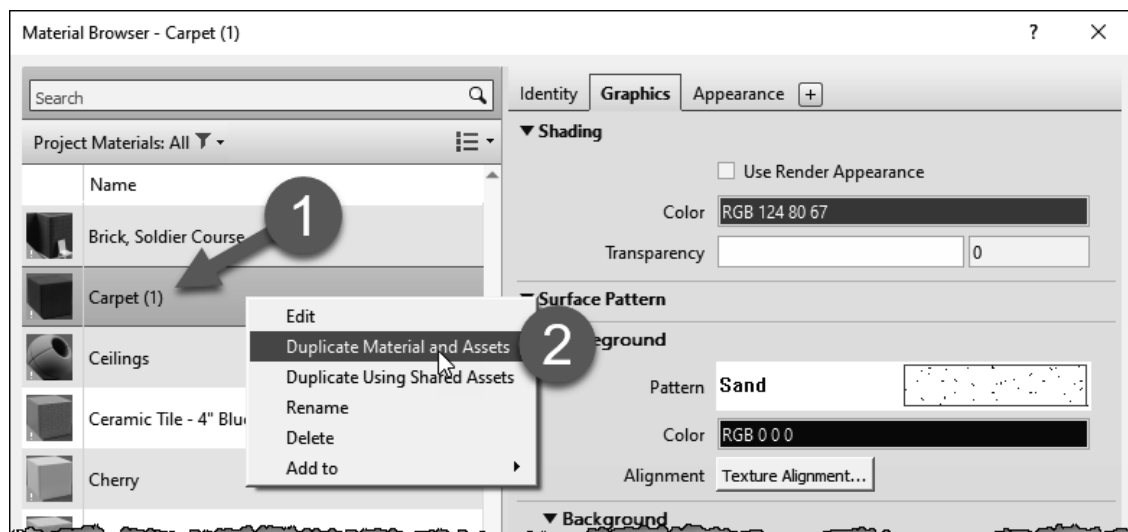

FIGURE 4-3.2 Duplicating a material
4. In the *Project Materials* list, select *Carpet (1)*.
5. Right-click *Carpet (1)* and then click the **Duplicate Material and Assets** in the pop-up menu (Figure 4-3.2).